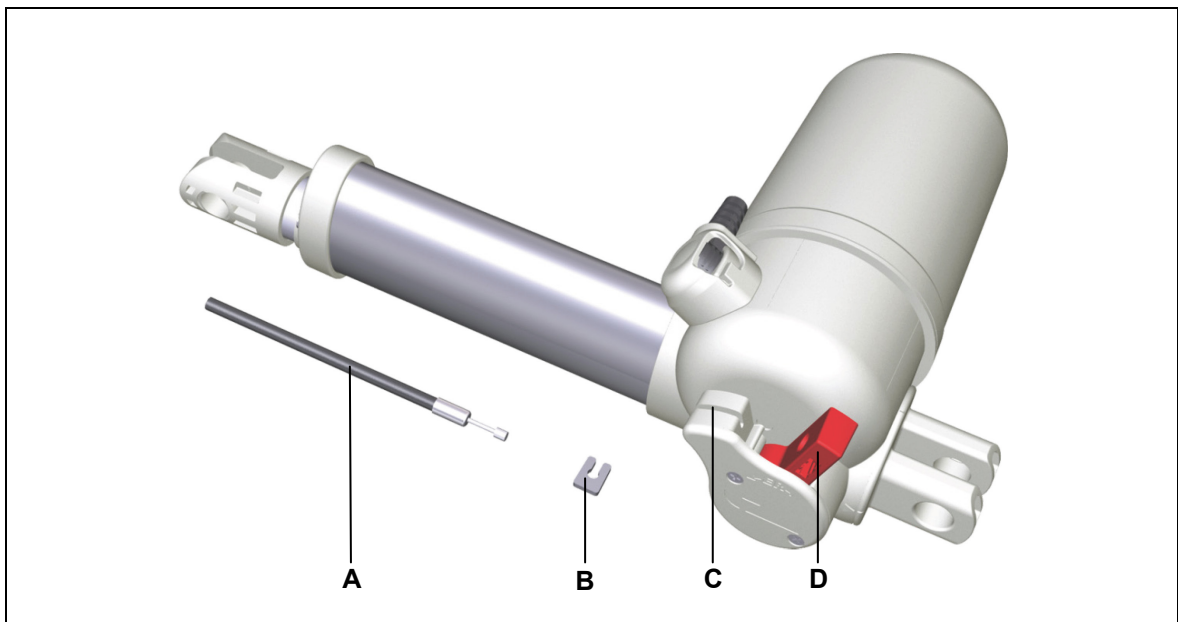
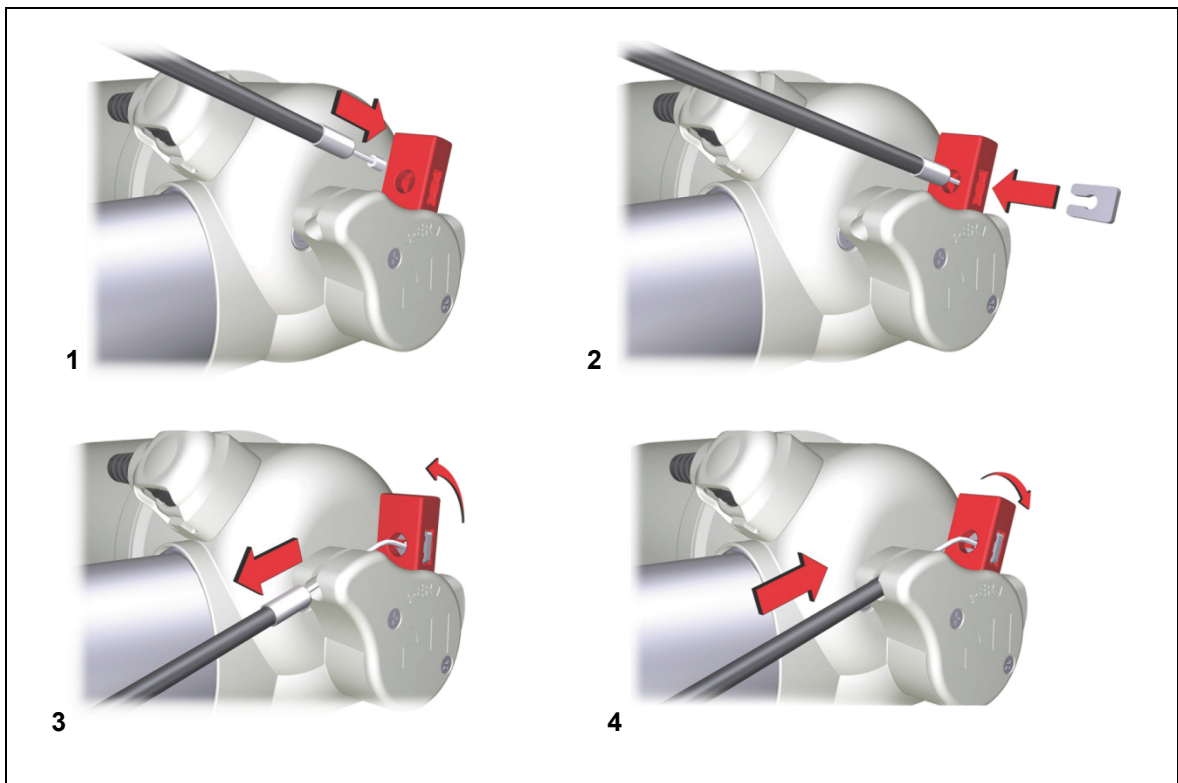

Figure 26 Mounting the drive with ER mechanical reset function
Figure 27 Installation of the Bowden cable for the ER mechanical reset function (optional)
- 1 Guide the Bowden cable (A in Figure 26) through the release lever of the ER (D), as shown in Figure 27.
- 2 Use the safety clip (B) to secure the Bowden cable in position.
- 3 Guide the Bowden cable (A) through the slot in the ER (C).
- 4 Place the Bowden cable (A) into the cable holder.